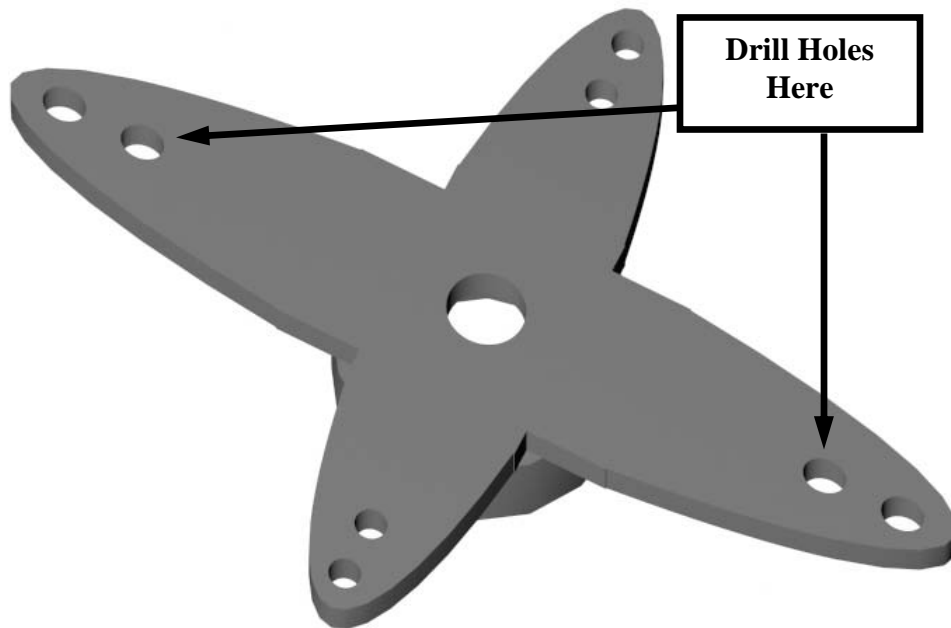

Figure 27
1. Drill out the second hole from the end of the longest (2) arms of the servo with a 1/8" drill bit (Figure 27). To make this process easier, temporarily place the servo arm on an available servo spindle to secure the arm while it is being drilled. Also, the round servo arms can be used instead of the star shaped servo arms for this step. Place the round servo arm onto the leg deck to identify the proper holes to drill.